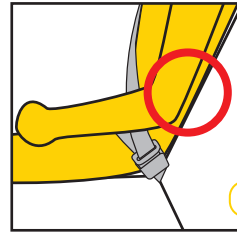

Figure 1
Step 1: Can the child sit with their back against the vehicle seat back? (refer Figure 1).